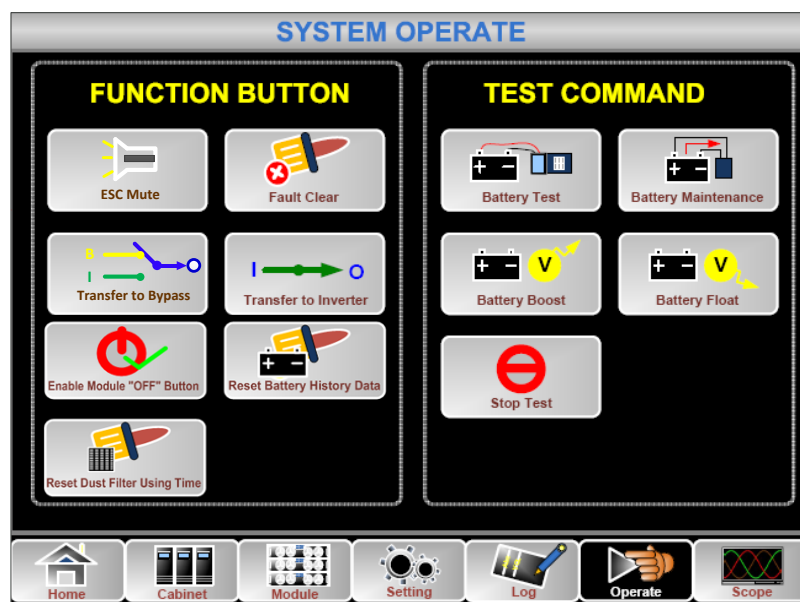

Figure0-3 Battery maintenance
- 1) Manual Discharging test. Enter the menu Operate, as is shown in Figure0-3 and touch the icon “Battery maintenance”  , the system transfers into the Battery mode for discharging. The system will stop discharging when the battery will have 20% of capacity or in low voltage. Users can stop the discharging by touching the “Stop Test” icon .